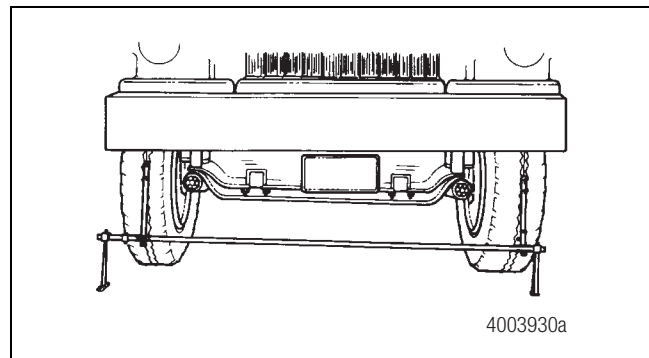

Figure 44
7. Place a trammel bar at the front of the tires. Align the pointers with the marks on tires. Raise the pointers so they are even with the spindles. Measure and record the distance between the pointers. Figure 44.